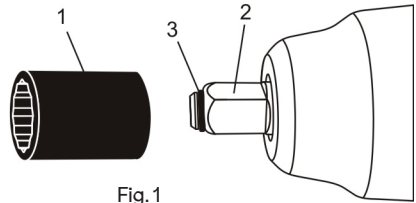

Fig. 1
To install a socket, press the square portion of the socket (1) onto the square drive (2) of the impact wrench (Fig. 1).
1. Install the correct size of impact socket on the impact wrench as outlined in Fig. 1.
1. Install the correct size of impact socket on the impact wrench (Fig. 1).